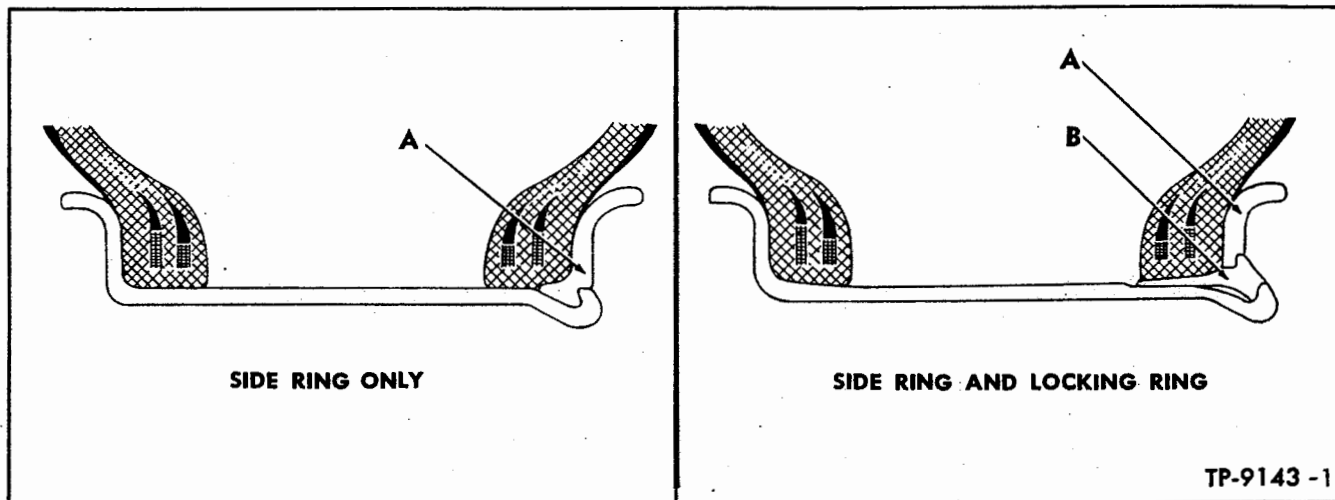

Figure 9—Wheel Rims and Lock Rings
Tube type tires are mounted on flat base wheel rims. Inner tire flanges are integral with wheel rims. Tires are secured on wheel rims by continuous type side rings on some vehicles, while other vehicles use a side ring and locking ring (fig. 9). Tubeless tires are mounted on a one-piece drop-center rim that requires no side ring or locking ring. Instructions which follow cover removal and installation of tube type tires only.
2. Position side ring "A" (fig. 9) on tire bead. Side ring will be automatically centered when locking ring "B" (fig. 9) is in place.